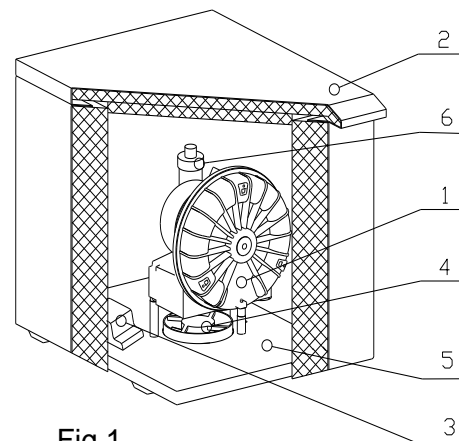

Fig.1
Suction pump (1) (Fig.1) creates vacuum in the pneumatic control module thus it aspirates foreign matters away from the working area of the physician and sucks them into the separator at the dental chair. Only clean air continues past the separator through the pump of the suction unit, and then, is pushed through a supplementary silencer (6) and continues through the output hose and vented to the environment outside of the building. Suction unit is switched on by means of a switching block (3) after receiving a signal from the dental chair (voltage 24V AC/DC) or by switching-on at the suction unit switch). Suction pump is mounted above the cooling fan (4) which is fixed to the base (5). The cooling fan draws air into the insulated soundproof metal box (2), which stands on feet to allow the air in, and vented slots in the rear to allow the air to blow through.